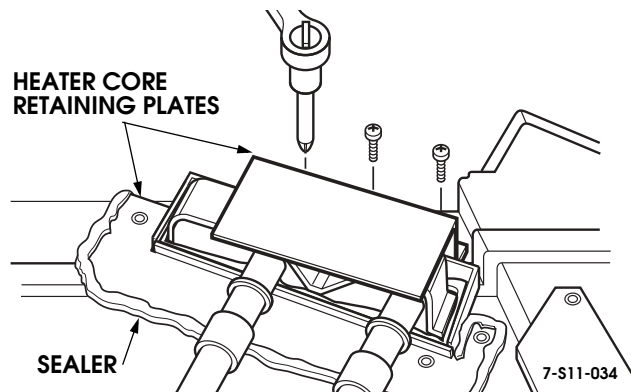

Figure 11-70: Retaining Bracket Removal
5. Cut sealer around heater core retaining plates (Figure 11-70).
6. Remove 2 retaining plates (Figure 11-70).